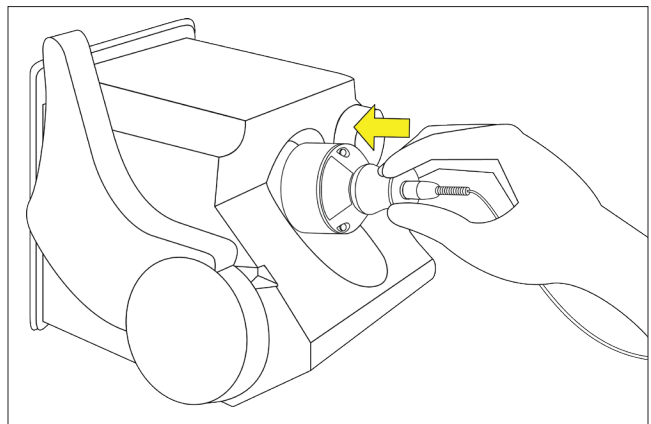

Figure 4. Position the power module.
- (b) Position the power module near the base of the TripSaver II recloser, as shown in Figure 4; the module will be held in place magnetically.